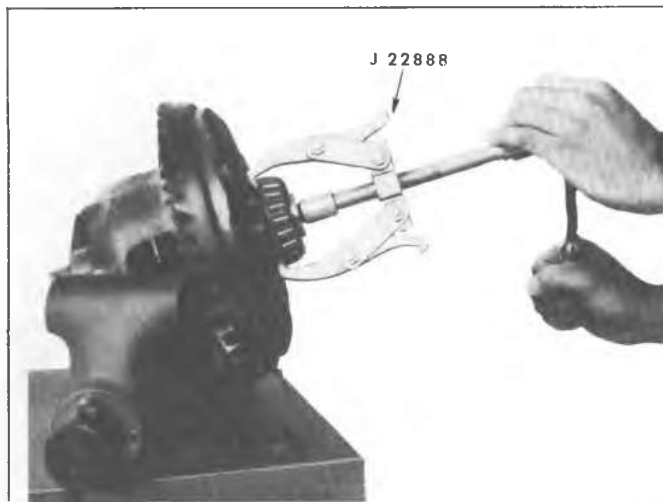

Fig. 16F—Removing Differential Side Bearings
- Remove differential bearing cone and roller using Puller J-22888, with Plug J-8107-3, as in figure 16F. Tag cone and rollers for assembly.